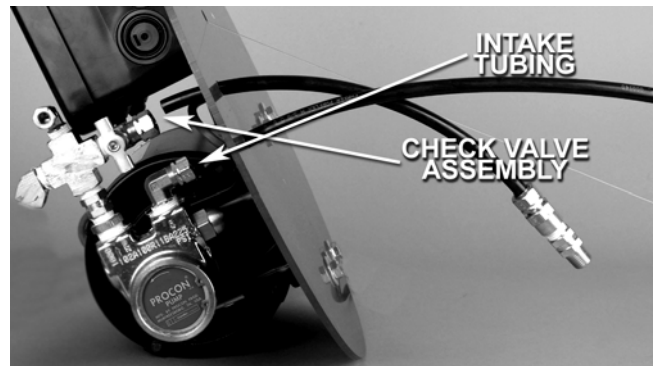

Figure 2 – PVC Circle with Intake Tubing and Check Valve Assembly
7. Run the end of the intake tubing from the intake filter through the PVC circle and connect it to the pump suction inlet (figure 2).
8. Insert the check valve assembly through the PVC circle and connect it to the pressure-regulating valve (figure 2).